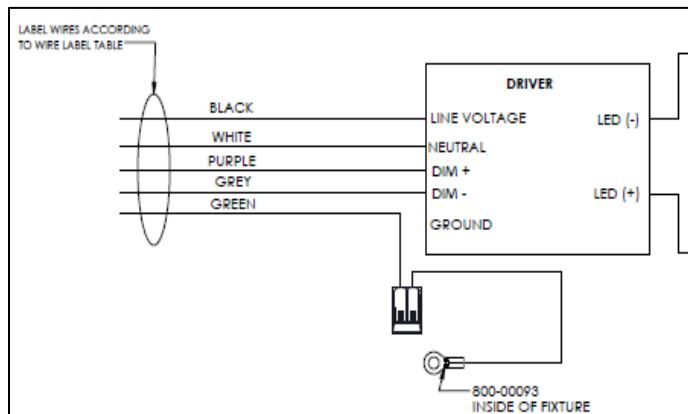
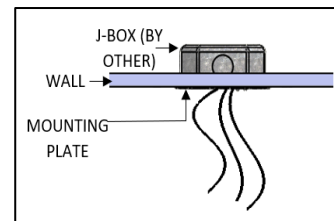

FIG. 11 - WIRE DIAGRAM
FIG. 10 – WIRING TO THE J-BOX
4. Raise the fixture and unplug wire whip from fixture harness and connect wire as shown Fig. 10 whip to building supply wires. See WIRE DIAGRAM and WIRE LABEL TABLE shown in FIG. 11 and FIG. 12 for wire connections. Make all Electrical connections in accordance with the NATIONAL ELECTRICAL CODE and applicable LOCAL AND STATE CODE.